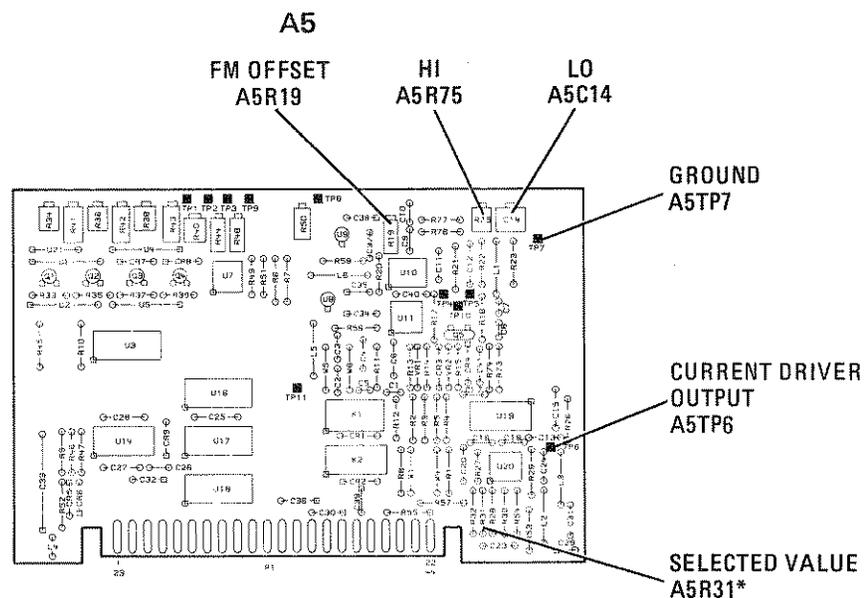

Figure 5-31. Location of A5 FM Driver Adjustments
3. Connect DVM between A5 board connector pin 21 and A5TP7 (ground). (See Figure 5-31.) Adjust A5R19 "FM OFFSET" control for zero Vdc \pm 1 mVdc.
8. Manually sweep function generator frequency from DC to 100 kHz. Select resistor A5R31 (Figure 5-31) so amplitude at 100 Hz and at 100 kHz is the same ± 0.2 cm on CRT.
9. Manually sweep function generator frequency from DC to 10 MHz. Adjust A5C14 "LO" and A5R75 "HI" controls several times (Figure 5-31) to obtain the most constant overall response from DC to 10 MHz.